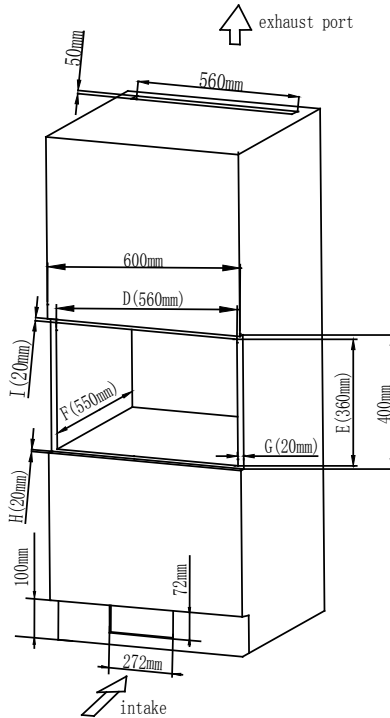

Fig. 5
Opening size: (D) 560 ± 2 x (E) 360 ± 2 x (F) 550 ± 2 (mm) as shown in Fig.5 "D", "E", "F".